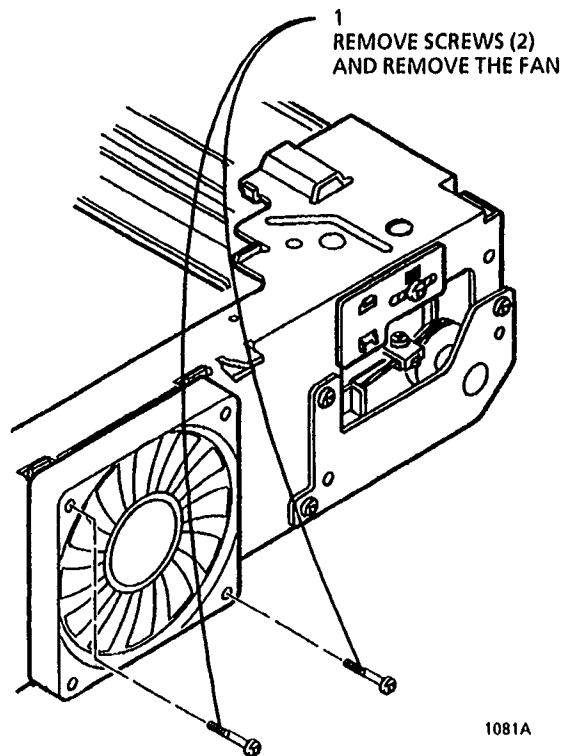

Figure 1. Removing the Cooling Fan Motor (MOT3)
4. (Figure 1): Remove the Cooling Fan Motor.